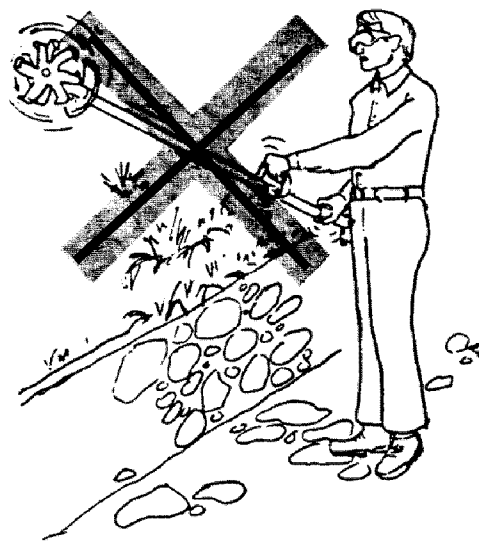
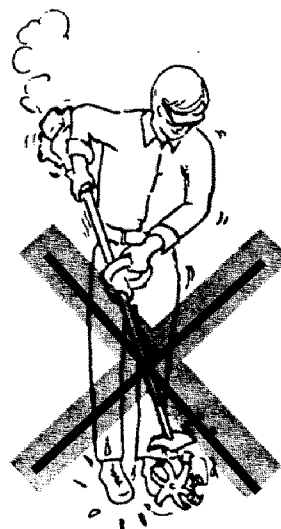

Figure 5
Figure 6
8. Do not work with the machine above ground level (Figure 5) or near your feet (Figure 6).